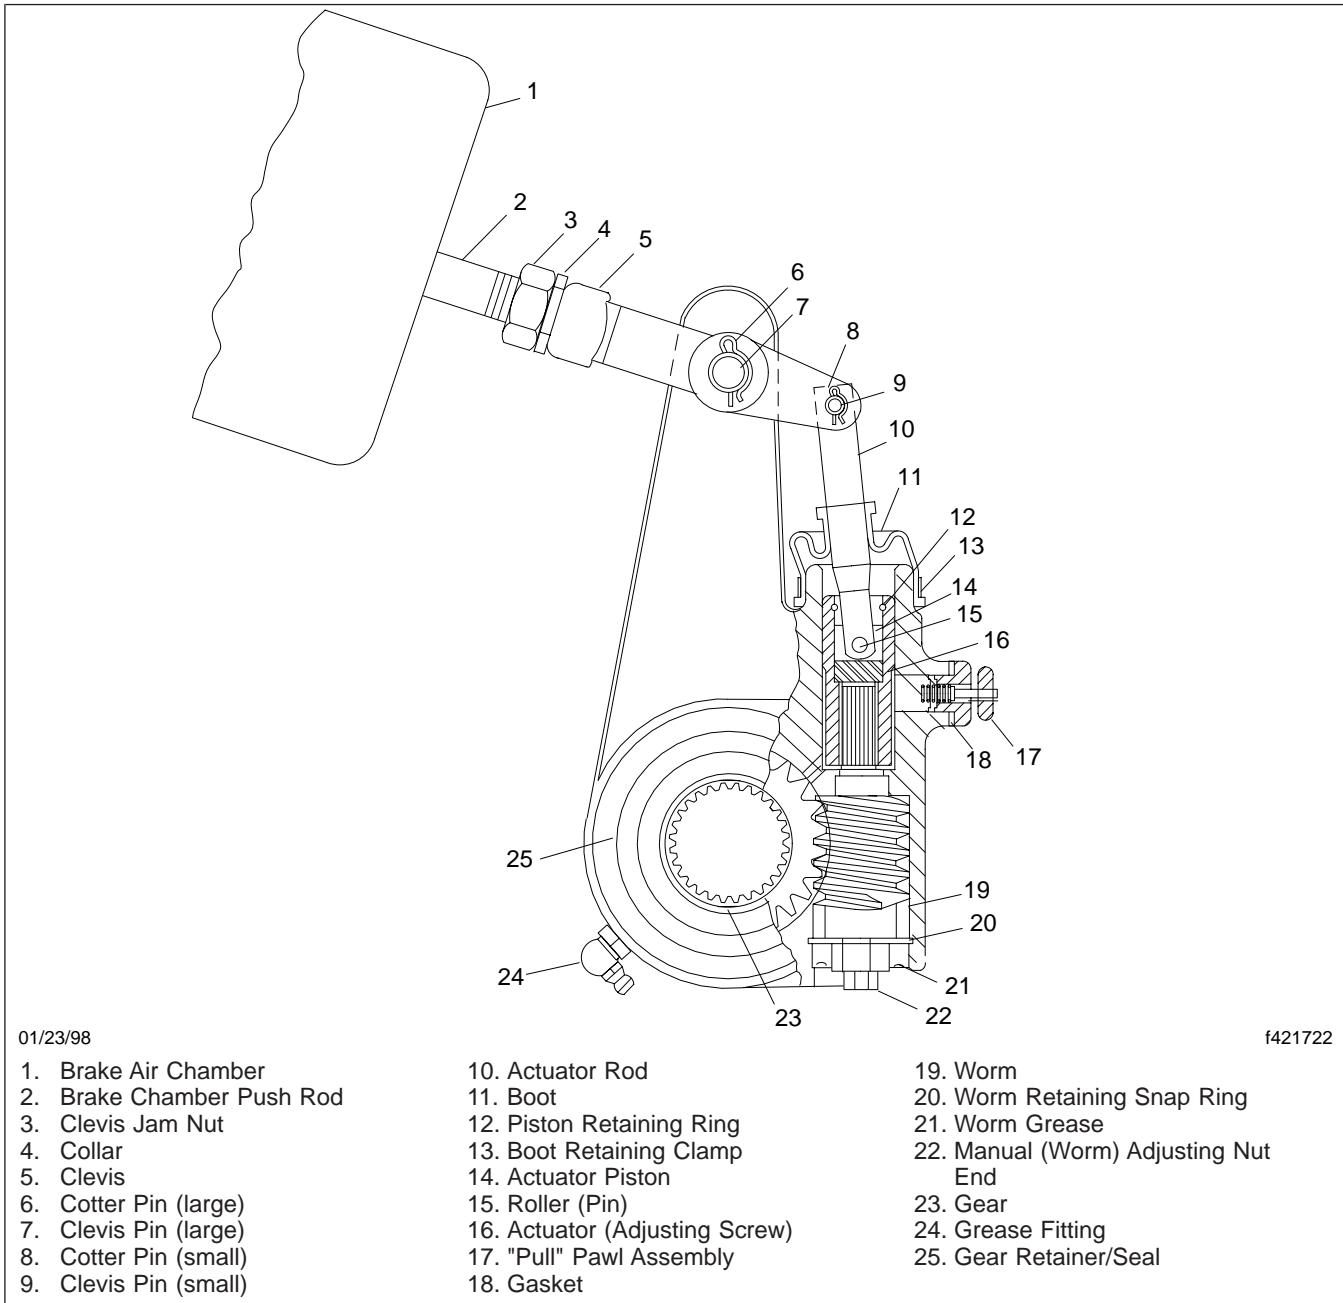

Fig. 1, Automatic Slack Adjuster (sectional view)
Principles of Operation (See Fig. 1)
3. Remove the retainer clips from the large and small clevis pins. Remove the clevis pins. See Fig. 1.